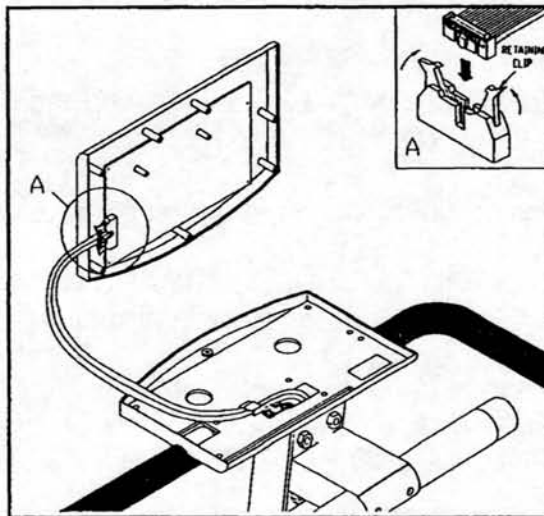

Fig.1-4
- a. Make sure the 16 pin connector to the electronics package to be secured in place (see Fig.1-4).
1. Make sure the 16 pin connector to the electronics package to be secured in place (see Fig.1-4)